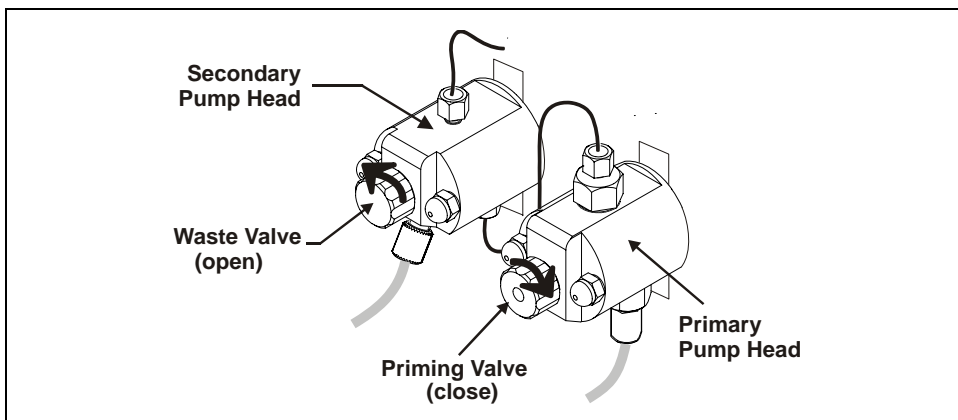

Figure 35. Pump Head Valve Settings for Priming the Pump Heads
1. Close the priming valve on the primary pump head (see Figure 35).
2. Open the waste valve on the secondary pump head by turning the knob one-quarter to one-half turn counterclockwise (see Figure 35). Opening the valve directs the eluent flow path to waste and eliminates backpressure.